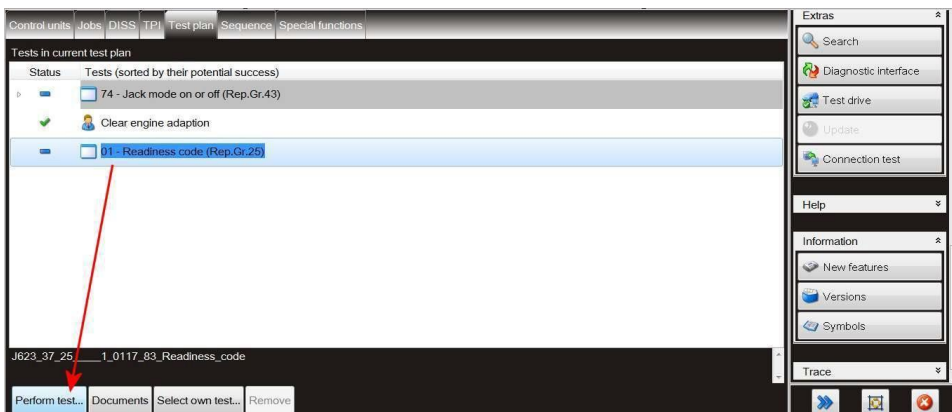

Figure 10
10) Referring to Figure 10, Once the Clear engine adaption procedure is completed the operative will automatically be guided to conduct the Readiness code procedure